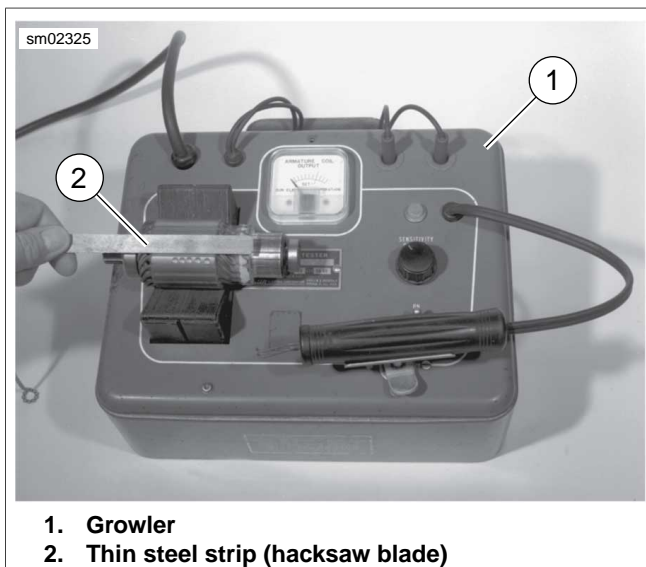
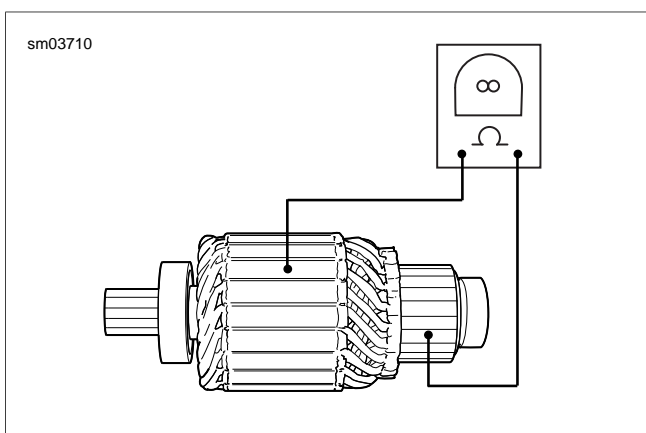

Figure 1-12. Shorted Armature Test Using Growler
Figure 1-13. Grounded Armature Test
4. See Figure 1-12. Check for a shorted armature.
- a. Place armature on growler (1).
- b. Hold a thin steel strip (2) (hacksaw blade), against the armature core and slowly turn armature.
5. See Figure 1-13. Check for a grounded armature with an ohmmeter or continuity tester.